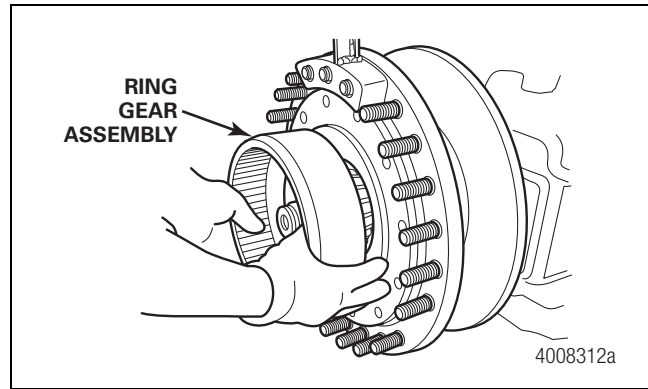

Figure 13.4
4. Install the ring gear assembly over the spindle splines until the bearings are seated in the cups. Figure 13.4.